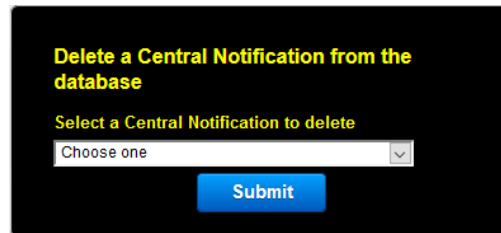

Fig. 28
1. This form allows you to delete a Central Notification.(See fig 28)